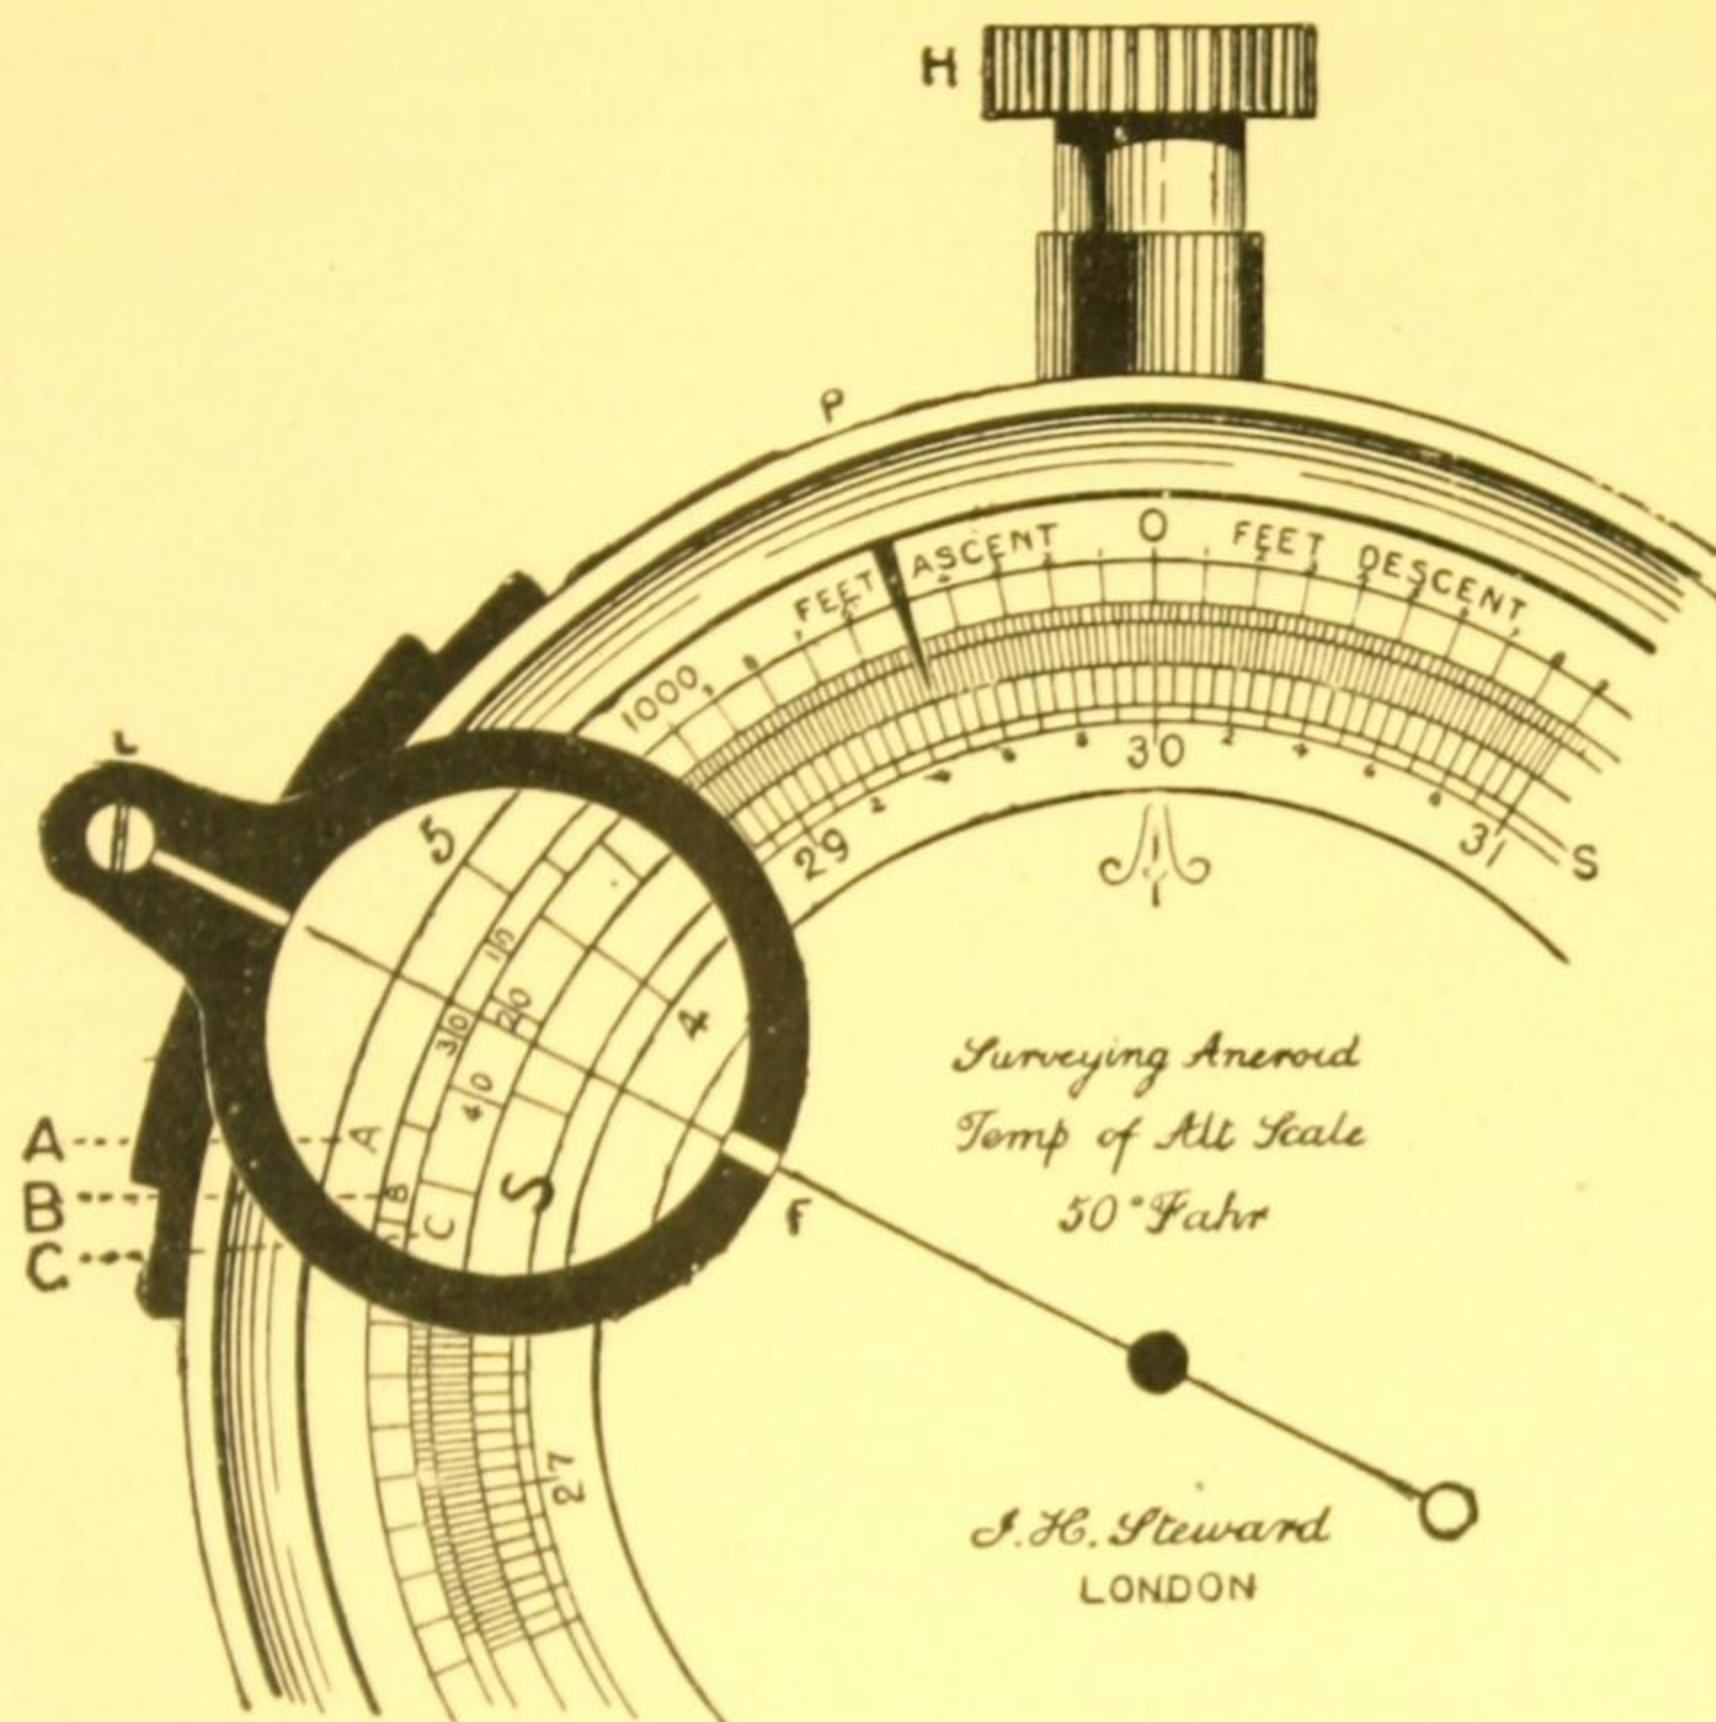

Fig. 110. Full size of dial.
**Method of Reading** the altitude scale of the Steward Hypsometric Aneroid described on page 73. The illustration Fig. 110 shows the full size of the dial, which is  $3\frac{1}{4}$  inches diameter. The reading lens L (exaggerated in the illustration for clearness) which is attached to a movable ring, must be drawn out about an inch so that its rod can pass over the mount of the pinion H. Set the lens L over the index hand F and hold the aneroid at a convenient distance so that the white lines on the lens mount can be seen at the same time as the index hand is seen through the lens. Adjust the lens so that the index hand and the white lines on the lens mount appear in the same line as shown in the illustration. This will prevent any parallax error. If an "ascent" has been made, the index hand F will have travelled over the black "ascent" scale to the left, and the altitude must be read from zero to the left. If a "descent" has been made the index hand will have travelled over the red "descent" scale to the right, and the altitude must be read from zero to the right. In the illustration it will be seen that the index hand F is to the left of zero, consequently it indicates an "ascent." Reading from zero to the left the index hand is seen to have passed 1,000 feet (1,000 feet is shown just outside the lens mount and 5 representing 500 is on the right-hand edge of the lens) and to stand half-way between the 20 line on circle C and the subdividing 30 line on circle B. The reading is therefore 1,525 feet. The numerals 10, 20, 30 and 40, shown in illustration under the lens, are not engraved on the instrument as it would overcrowd the scale. The movable pointer P can be set to any reading on the barometrical scale S for reference during the survey.